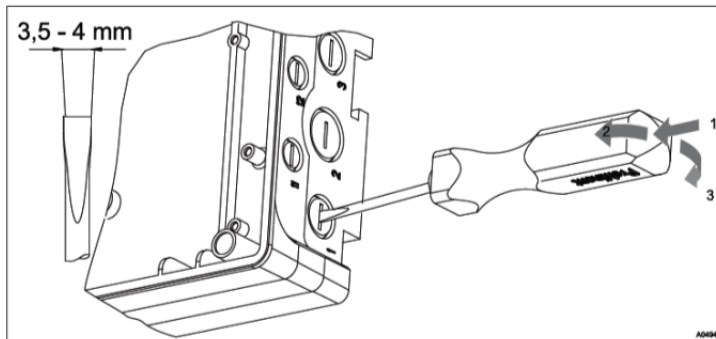

Fig. 10: Breaking out threaded holes
2. To break out the threaded holes, punch the slit in the middle of the threaded holes using a screwdriver (tip width 3.5 - 4 mm, see Fig. 10) and lever the material out